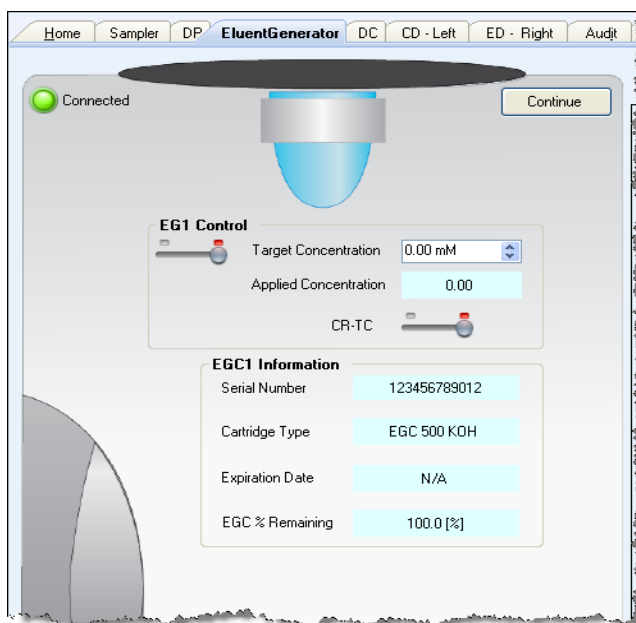

Figure 4-8. Example EG Panel (Chromeleon 7 Version Shown)
2. On the Chromeleon 7 ePanel Set or the Chromeleon 6.8 panel tabset, click the **Eluent Generator** tab to display the Eluent Generator panel (see Figure 4-8).